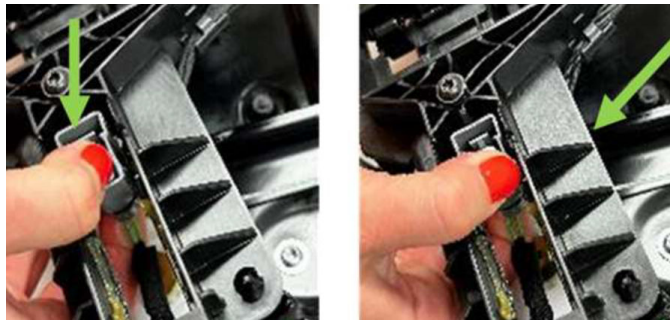

Fig. 3
5. Pop out the passive antenna clip from the carrier plate by pushing down on the right side of connector and pushing out from the back to pop out Fig. 3.